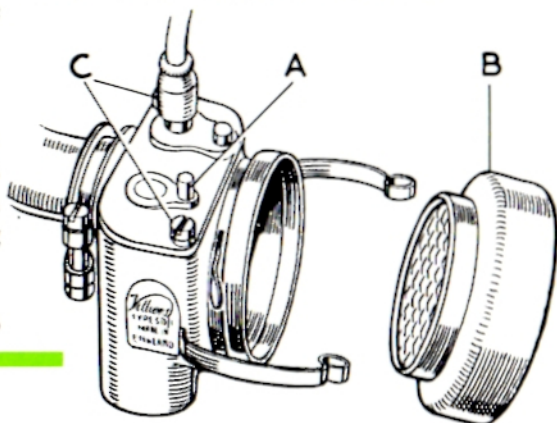

Fig. 16
4. Air filter (B, Fig. 16) blocked by dirt. (See air filter, page 29).
Undo two screws (C, Fig. 16) holding carburettor body cover in position and remove body cover, taking care not to damage the gasket. The throttle slide assembly (F, Fig. 15) will come away with the cover. Now close throttle lever, and by pressing throttle inner cable (G, Fig. 15) into the throttle slide (H, Fig. 15), the cable anchorage at the bottom of the throttle slide is moved clear of its seating and can be pushed across into the release channel. The cable and coil spring can now be withdrawn. Now place the palm of the hand over the opening in the throttle slide and carefully push the taper needle through until the groove plate retaining spring ring (E, Fig. 15) has been removed safely into the palm of the hand.
AIR FILTER (B, Fig. 16).